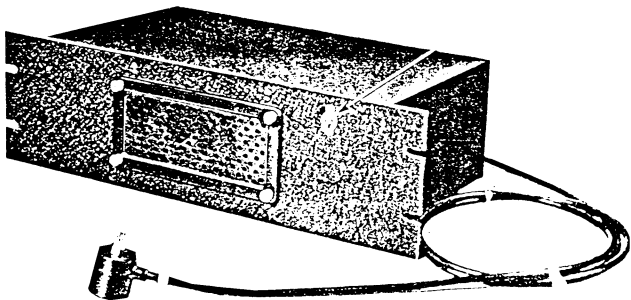

Figure 15. Power supply (National type SPU-607) (rectifier power unit, Navy type No. 20090).
c. Power Supply SPU-697 (rectifier power unit, Navy type No. 20090) operates from 115-volt, 50- to 60-cycle alternating current. (See fig. 15.) It is a rack mounting unit similar in appearance to Power Supply SPU-686-S. The OFF-ON switch (S-2-a) is mounted on the front panel along with a removable grill behind which is rectifier Tube JAN-80. Output voltages for both filament and plate supply are taken off at the four-prong socket (X-3) in